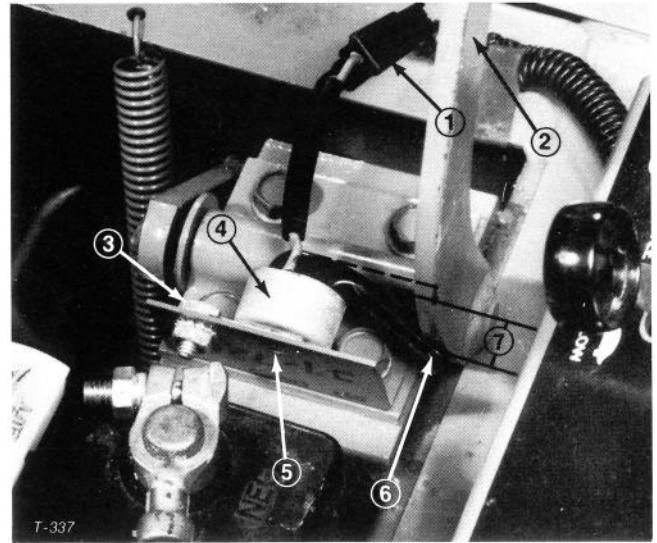

Figure 34
2. Disconnect negative battery cable from battery and separate wire harness connectors (Fig. 34).
3. Move PTO lever to the ON position. Then remove capscrew and locknut holding switch against mounting bracket (Fig. 34).
bend about 1/2 inch (13 mm) (Fig. 34). If switch arm does not bend 1/2 inch (13 mm), bend the mounting bracket to get the correct adjustment.